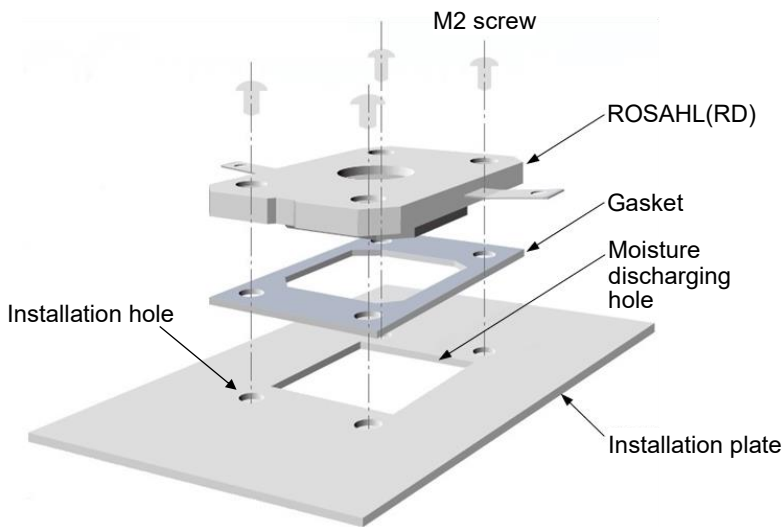

Fig.1 Installation Image
(Refer to the Fig.1~2)
- *5 Refer to the Figure 1~2.